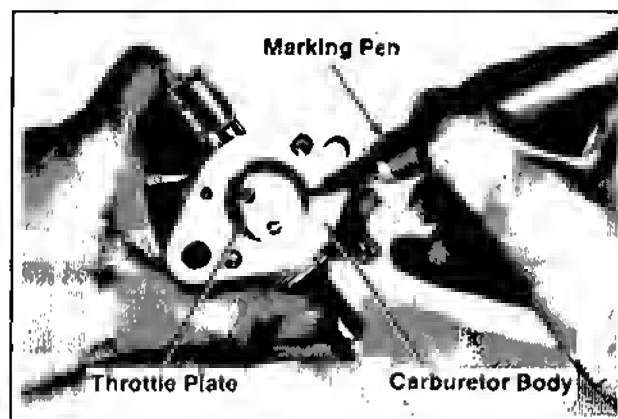

Figure 6B-7. Marking Throttle Plate and Carburetor Body.
1. Because the edges of throttle plate are beveled, mark the throttle plate and carburetor body with a marking pen to ensure correct reassembly (refer to Figure 6B-7). Also take note of the throttle plate position in bore, and the position of the throttle lever.